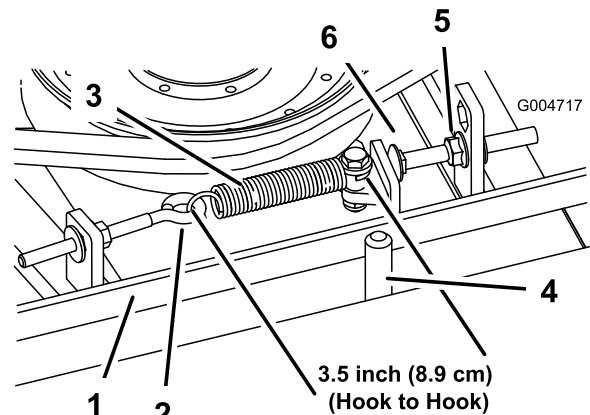

Figure 72
When properly tensioned, the inside measurement of the extension spring (hook to hook) should be approximately 8.3 to 9.5 cm (3-1/4 to 3-3/4 inches). Once the correct spring tension is attained, adjust the stop bolt (carriage bolt) until there is approximately 2 to 5 mm (0.065 to 0.185 inch) clearance between the head of the bolt and the idler arm (Figure 72).
Note: Ensure that the belt is positioned on the spring side of the belt guide (Figure 72).
2. Loosen the eye bolt allowing the removal of the extension spring (Figure 72).
3. Loosen the flange nut securing the stop bolt to the mounting tab and move the idler pulley away from the belt to release the belt tension (Figure 72).
- Connect the extension spring (Figure 72) to the eye bolt and tension the belt as follows: